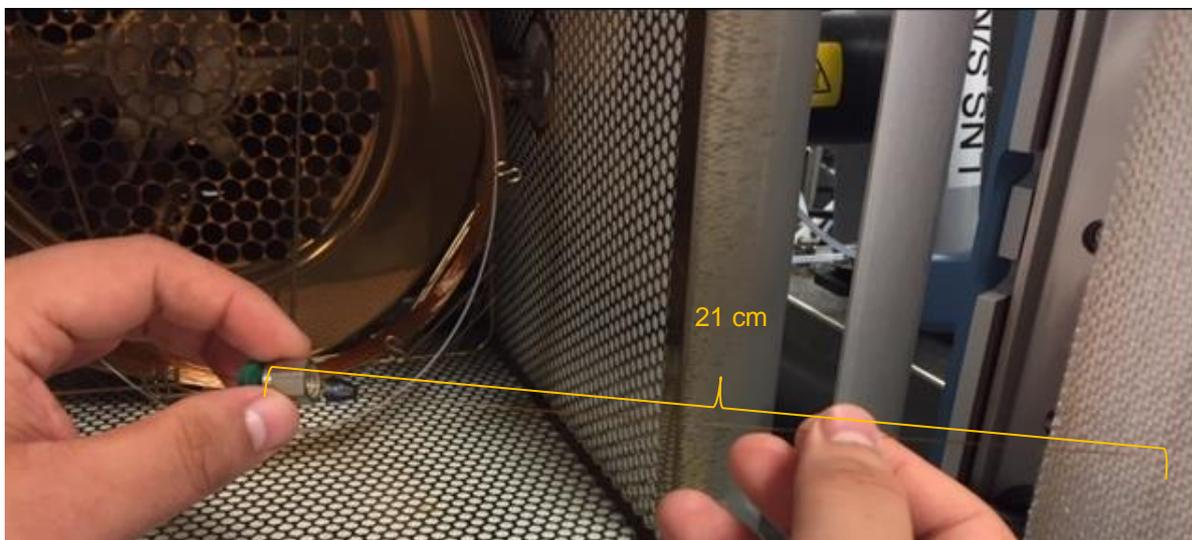

Figure 11. GC column length going through the GC-LNS transfer line.
5.2.4 Remove the 21cm of GC column that goes through the GC-LNS transfer line (Figure 11).